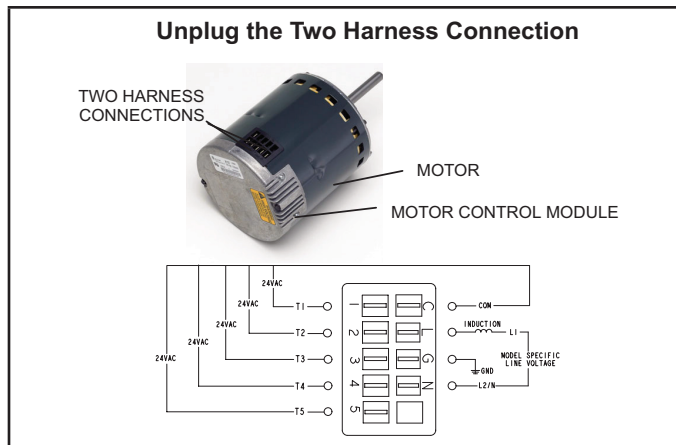

FIGURE 18
- 3 - Unplug the two harnesses from the motor control module. See FIGURE 18.